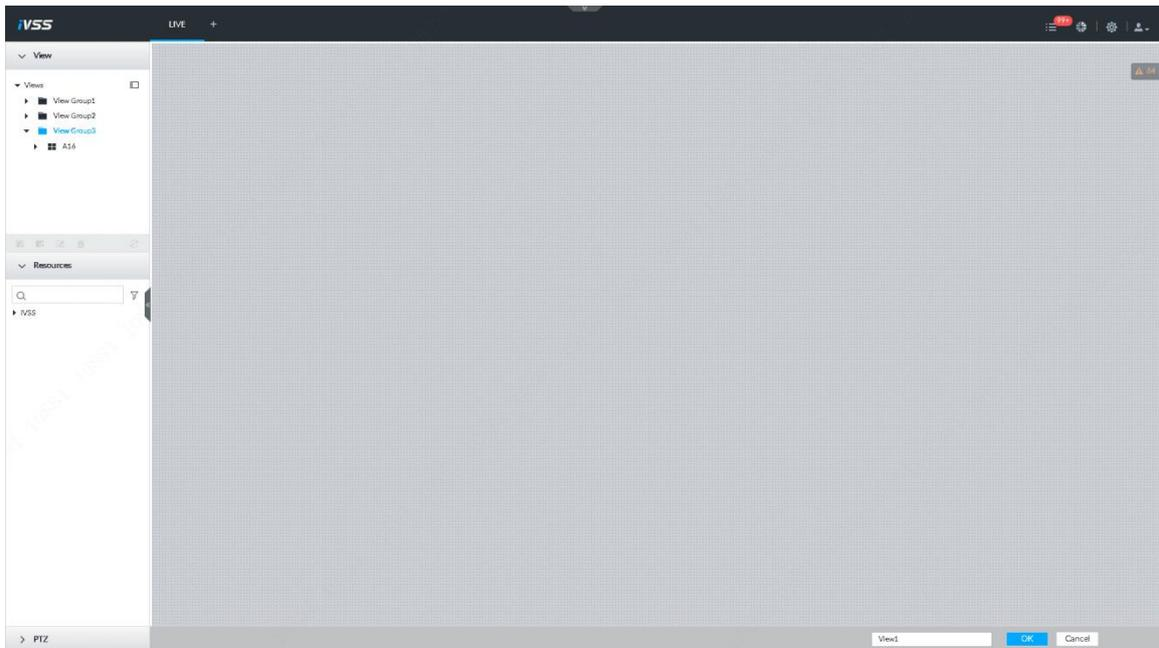

Figure 4-4
- Right click View or the create view group, select new views. Enter edit view interface. See Figure 4-4.